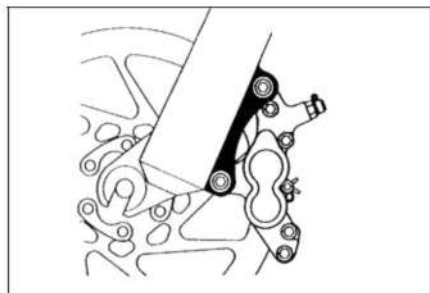

Figure 11.
3. Some bicycle brakes, such as disc brakes (fig. 11) and V-type brakes (fig. 12), are extremely powerful. Take extra care in becoming familiar with these brakes and exercise particular care when using them.